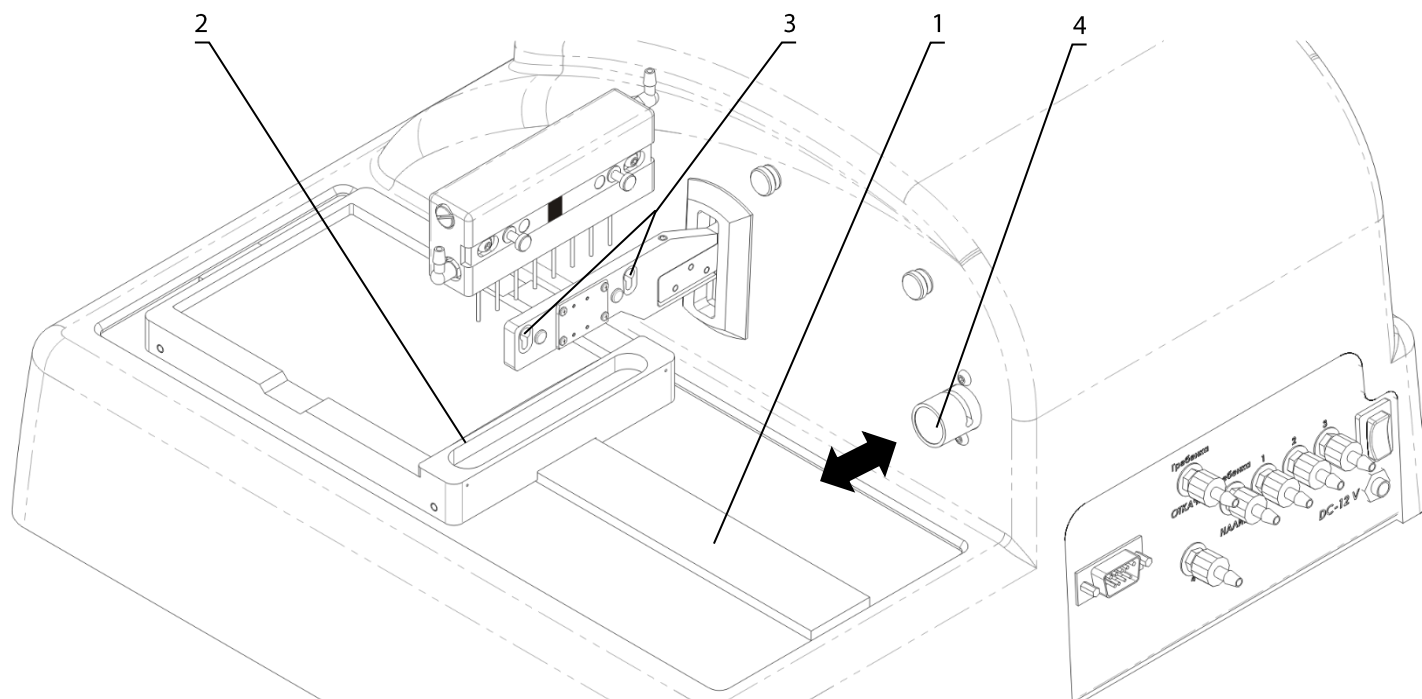
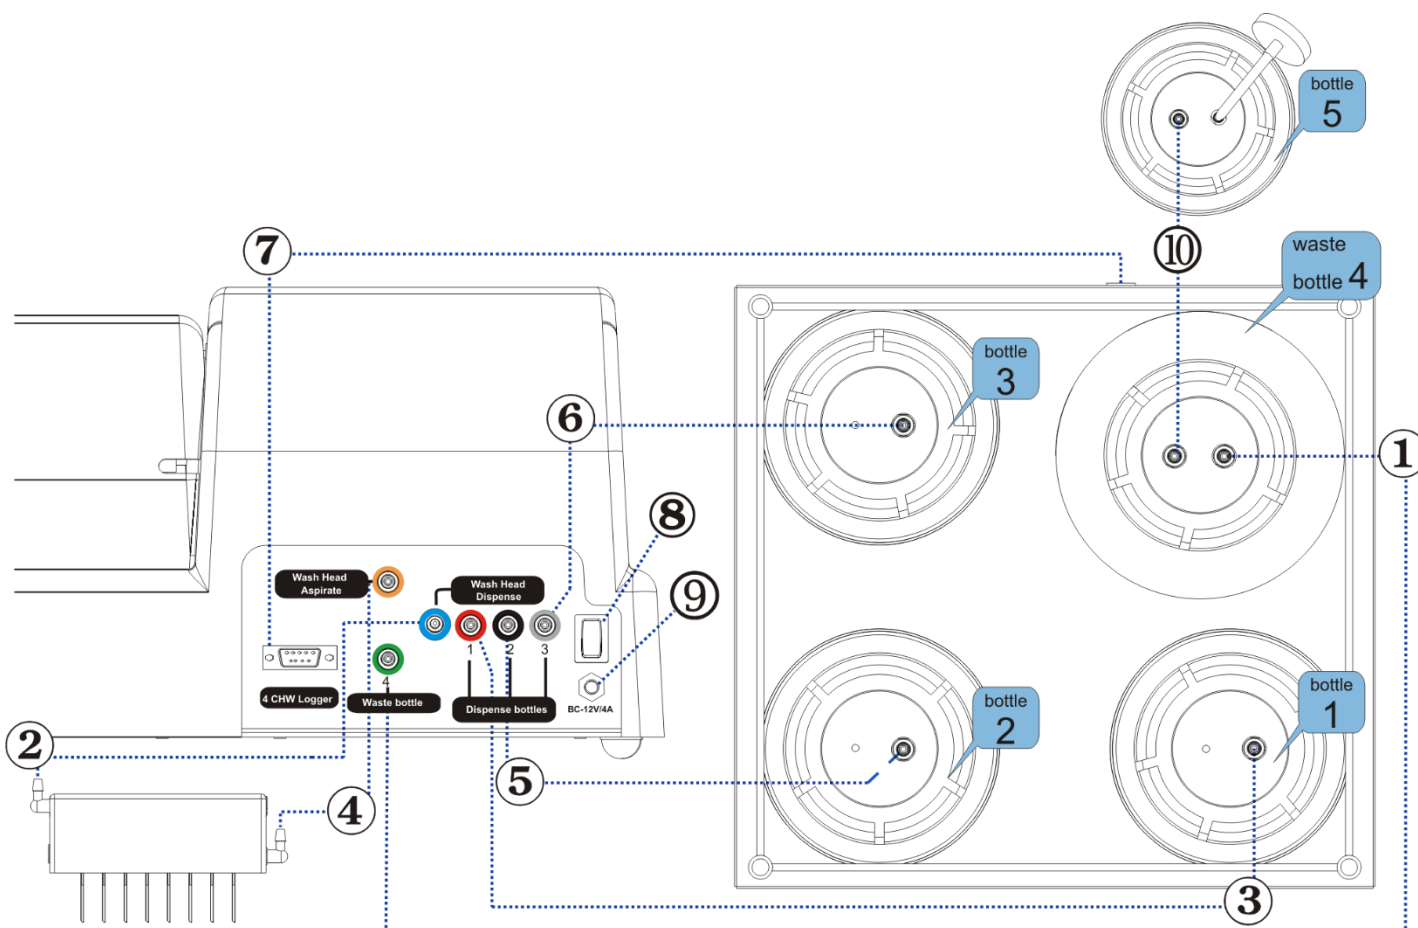

Fig. 2. Unit side and back overview. Setting up.
Fig. 3. Assembly diagram
- 3.4.4. Place the plate platform on the railing (fig. 2/1) so that the plate holder (flat spring) faces the rear side of the unit (fig. 2/2). Magnet on the other side of the rail locks the platform into start position.
- 3.4.6. Install the manifold in the slots of the holder arm (fig. 2/3). Magnets in the manifold and the holder arm connect and align the manifold.
- 3.4.7. Connect the manifold inlet connector supplying the liquid and the **blue**-coloured **Washing Head Dispense** connector at the rear panel of the unit (fig. 3/2) with a tube (fig.1/7).
- 3.4.8. Connect the manifold outlet connector and the **yellow**-coloured **Washing Head Aspirate** connector at the rear panel of the unit (fig. 3/4) with a tube (fig.1/8).
- 3.4.9. Connect the #4 **green**-coloured **Waste bottle** outlet on the rear side of the unit to the connector of 2-litre bottle #4 for waste liquid collecting (fig. 3/1).
- 3.4.11. Connect the Waste bottle #4 to the half-litre bottle #5 (fig.3/10).
- 3.4.12. Connect bottle with buffer #1 to the inlet connector (#1 – **red**, fig. 3/3) with a tube (fig.1/6).
- 3.4.13. Connect bottle with buffer #2 to the inlet connector (#2 – **black**, fig. 3/5) with a tube (fig.1/6).
- 3.4.14. Connect bottle with buffer #3 to the inlet connector (#3 – **white**, fig. 3/6) with a tube (fig.1/6).
- 3.4.15. Insert the manifold tube (fig. 3/2) into the valve opening (fig. 2/4). Press the valve in the direction of the arrow and hold the valve while stretching the tube and pulling it through the opening. Release the valve.
- 3.4.18. If 4-channel weight logger is included in the kit, remove pads from underside of scale cups. Place bottles on the 4-channel weight logger according to the numbering. Connect the RS-232 with the cable to the plug connector on the rear side of the unit (fig. 3/7).
Before connecting the unit to the mains outlet, check that the power switch (fig. 3/9) is in position **O** (off).
- 3.5.1. Connect the external power supply to the power socket (fig.3/8) on the rear panel of the unit.
Note: When working with the FastFRAME plates, remove the plate holder (fig. 2/2). Install it back when working with immunoplates.